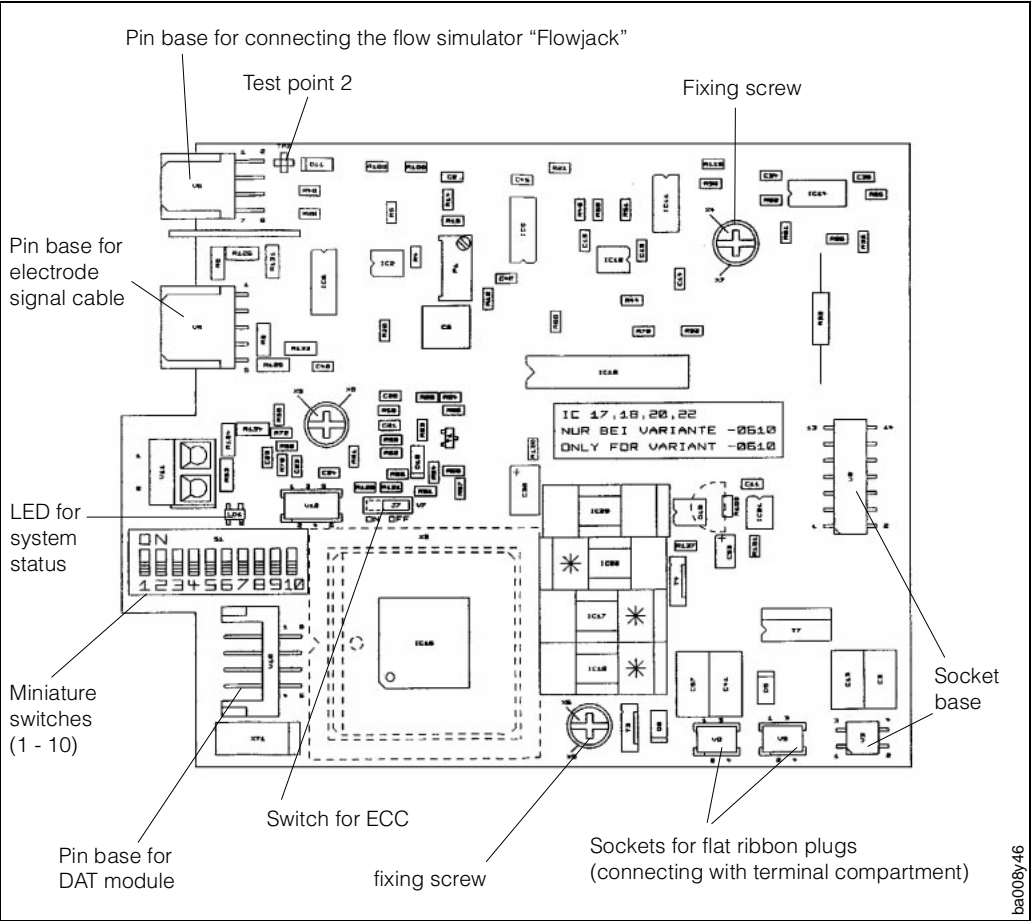

Fig. 44
- An LED is also situated on the amplifier board of the Promag 30 (see Fig. 44). This LED is always lit as long as the measuring system is operating correctly. In case of error the LED is flashing, thus indicating an error. If the LED ist neither lit nor flashing there is a power supply breakdown.
5. Remove the cable board of the screened signal cable from the amplifier board (Fig. 44: V5).
8. Remove the ribbon cable plug (connection cable to the connection terminal area) from the amplifier board (Fig. 44: V8, V9).
10. If necessary, remove the DAT module from the pin strip (Fig. 44: V 10) on the amplifier board: